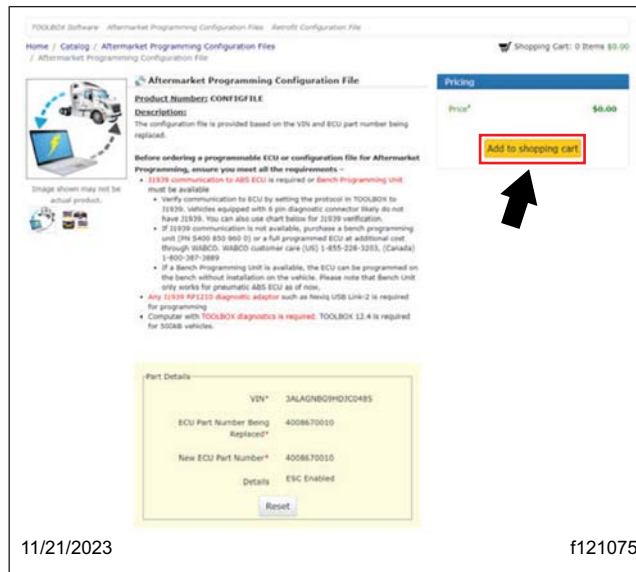

Fig. 5, Adding Configuration Files to Shopping Cart
- The configuration file details for the VIN and ABS ECU part number combination will be displayed. Verify the VIN and part number, then select 'Add to shopping cart.' See Fig. 5.